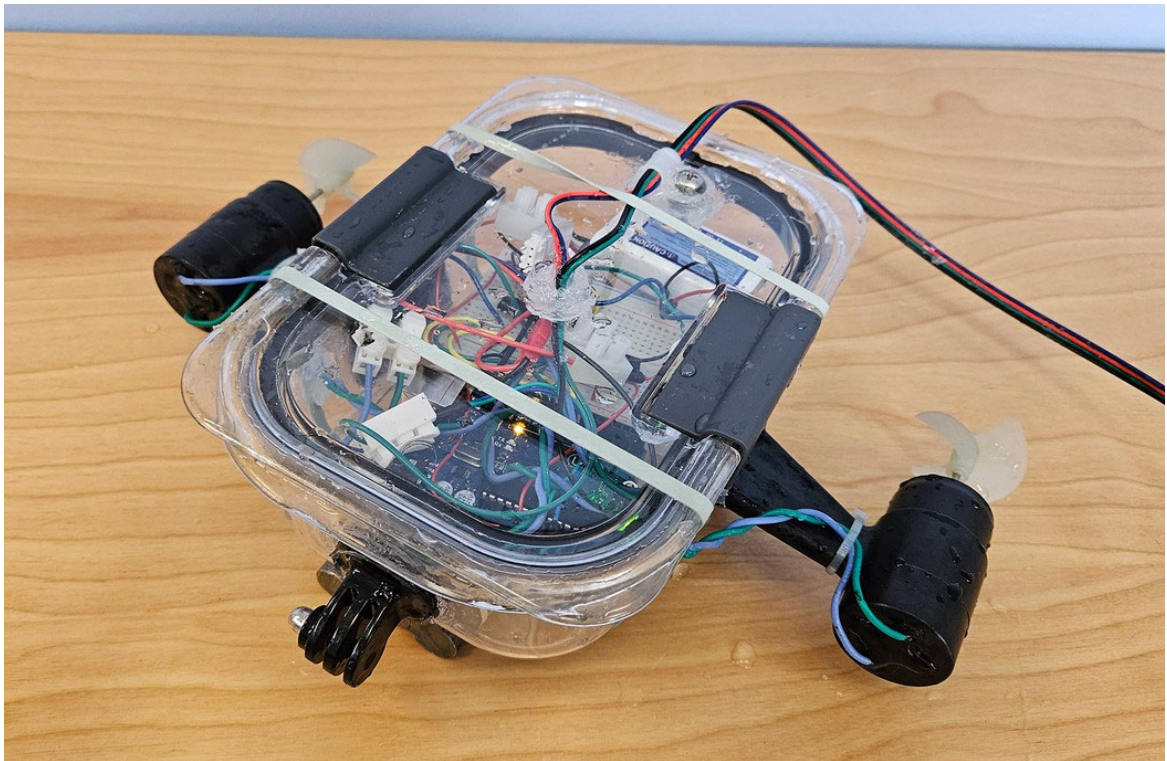

Figure 9. Assembled ROV with all the electronics inside the container.
- e. Figure 9 shows the sealed container with all the electronics placed inside and the wires passing through holes in the container. Note how cable clips and zip ties are used to help relieve stress on wires that pass through the container wall. This is especially important for the tether. You do not want the tether pulling directly on the silicone sealant that you will place around the hole.